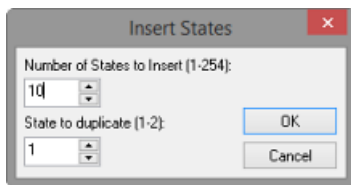

FIG. 325 Insert States dialog
10. In the State Manager window, right-click on the first state and select **Insert States** to open the *Insert States* dialog (FIG. 325):